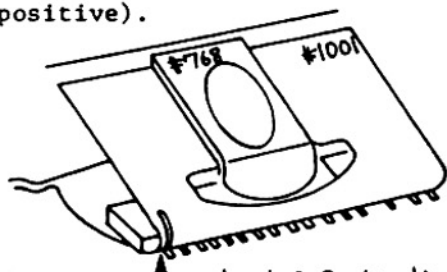

fig. 30
- ! 11. Breakage of land of Combination magnet on #1001. See Figure 30. FPC